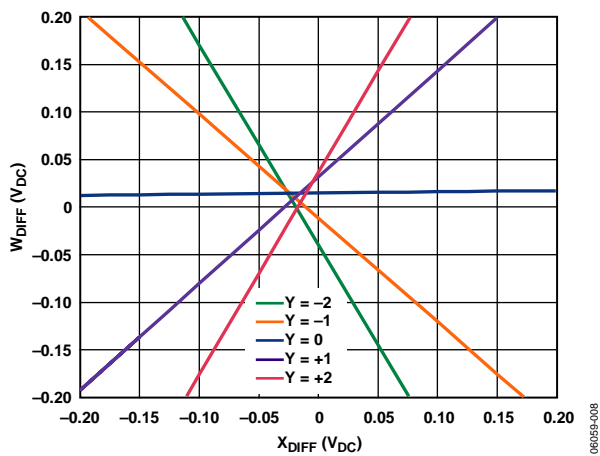

Figure 4. Magnified DC Cross Plots
The dc offset of the ADL5391 is approximately 20 mV but changes over temperature and has variation from part to part (see Figure 4). It is generally not of concern unless the ADL5391 is operated down to dc (close to the point  $X = 0 \text{ V}$  or  $Y = 0 \text{ V}$ ), where 0 V is expected on the output ( $W = 0 \text{ V}$ ). For example, when the ADL5391 is used as a VGA and a large amount of attenuation is needed, the maximum attenuation is determined by the input dc offset.
The dc component of the output is related to the square of both the offset (OFST) and the signal input amplitude (E). The offset can be found in Figure 4 and is approximately 20 mV. The